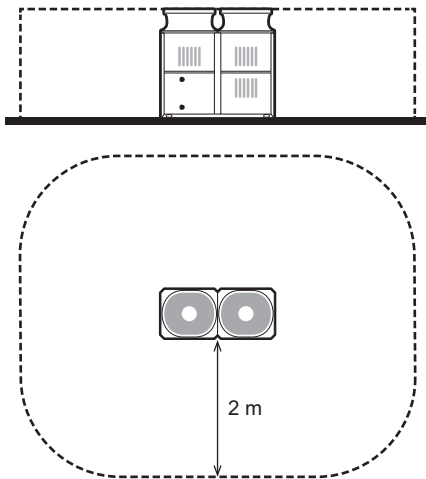
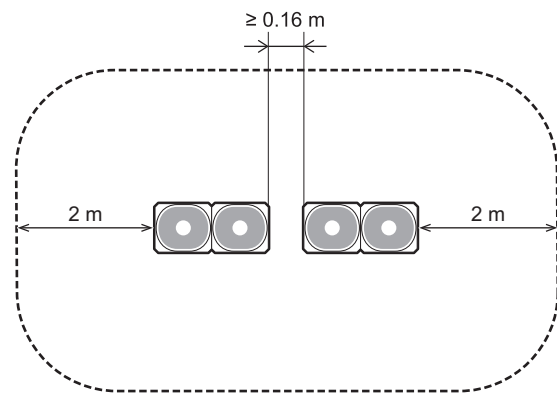

Fig. 2
Fig. 3
**(1) When installed in a location with an open around (Fig2, Fig3)**